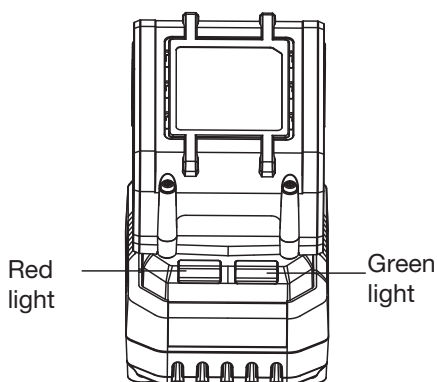

Figure 1
1. CHARGING THE BATTERY PACK (NOT SUPPLIED) (SEE FIG. 1)